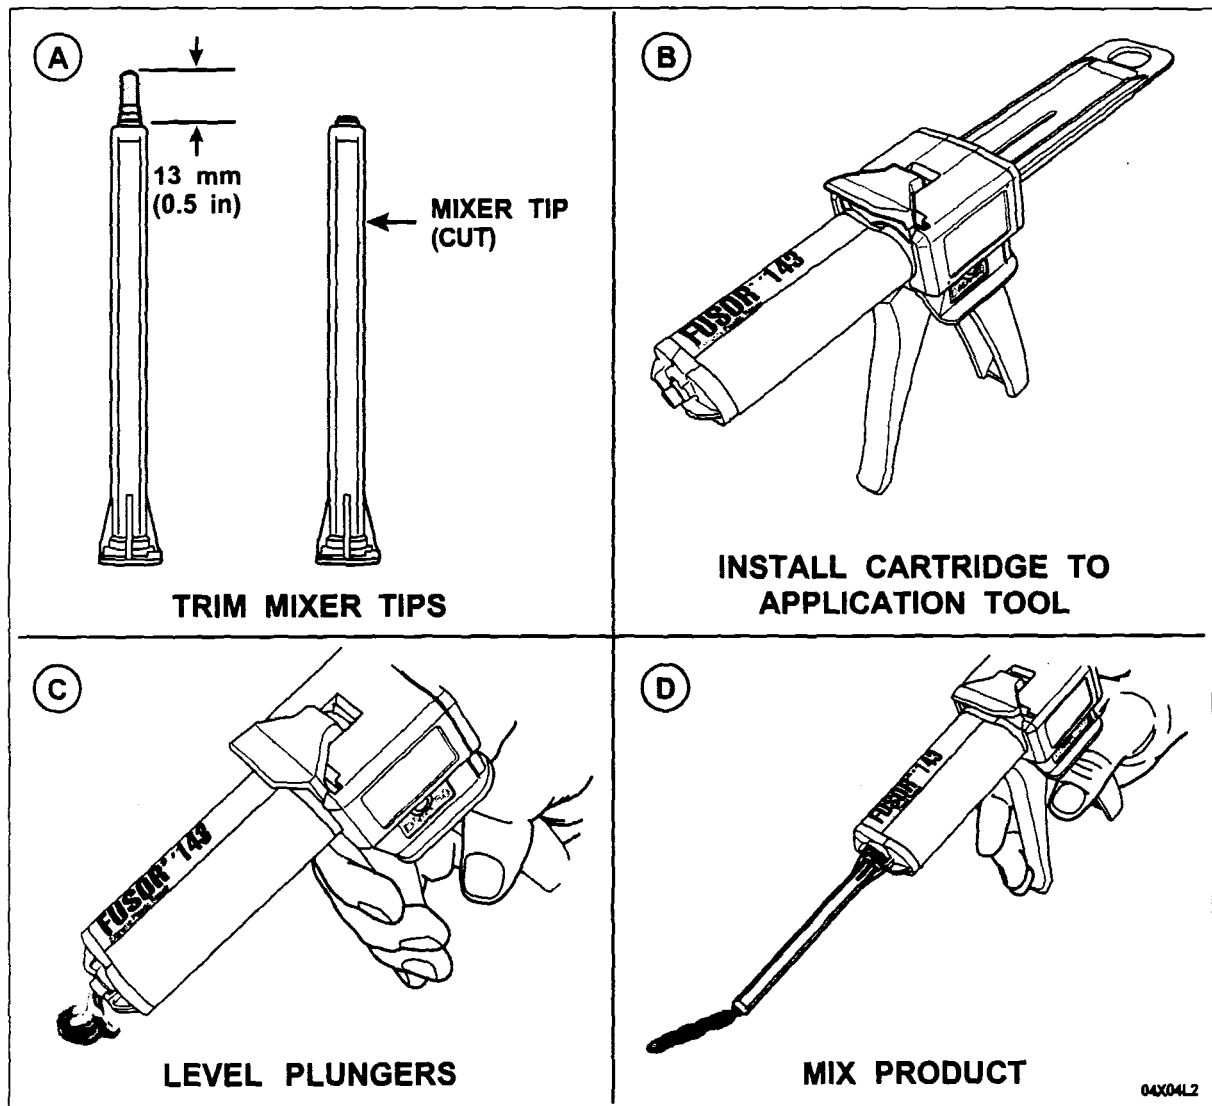

FIGURE 12
- A) Trim approximately 13 mm (0.5 in) off the top of both mixer tips, down to the last ring. See Figure 12.
- D) Install one (1) mixer tip onto the cartridge and dispense a 75-mm (3-in) bead of the adhesive onto a piece of scrap cardboard (until the product is evenly mixed and the color is consistent).